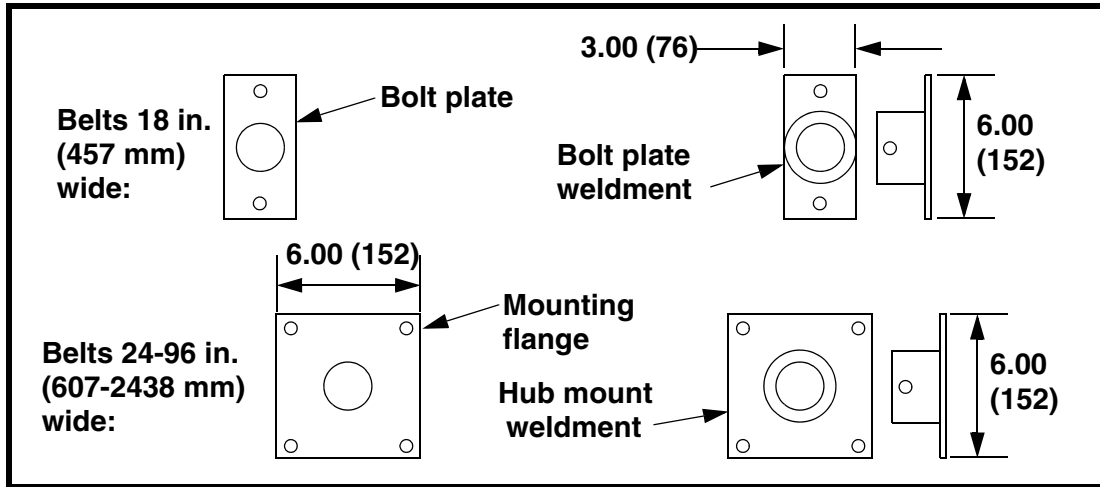

Figure 4. Martin® Torsion V-Plow Mounting Plates
5. See Figure 4. Mark location of mounting holes as follows: